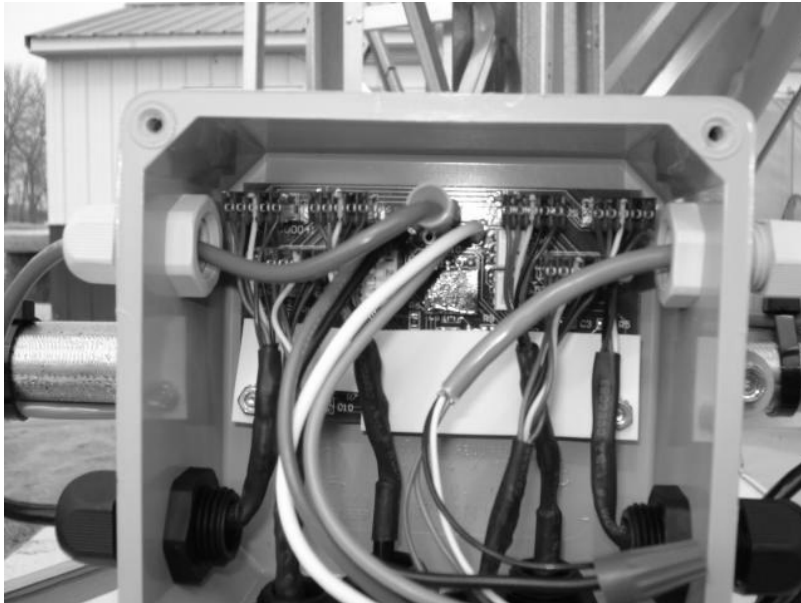

FIGURE 8
**Step 20:** Install the communication cable starting with the bin farthest away from the BinTrac monitor for that cluster of bins if more than one bin will be connected the BinTrac monitor. Pass the communication cable through the gray liquid tight strain relief (right side of the enclosure in figure 8). Connect the red wire to the red wire on the summing box using an appropriate sized wire nut. Connect the black wire to the black wire and the green jumper wire with the black end from the summing box. Connect the green wire to the orange wire on the summing box. Connect the White wire to the white wire on the summing box. Run the communication cable to the next summing box or to the BinTrac monitor.